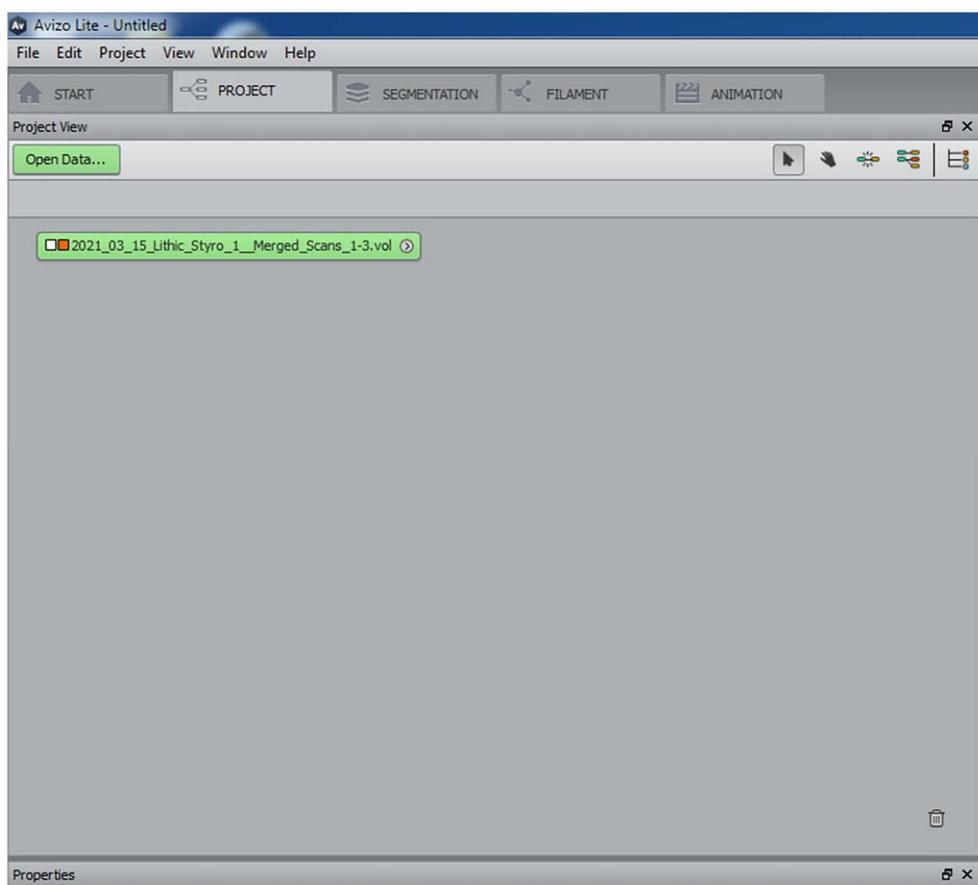

Fig. 11: Partial screenshot of the 'Label Panel' with loaded vol file.
- 20.11 Now, Avizo should load and open the vol file (Fig. 11).